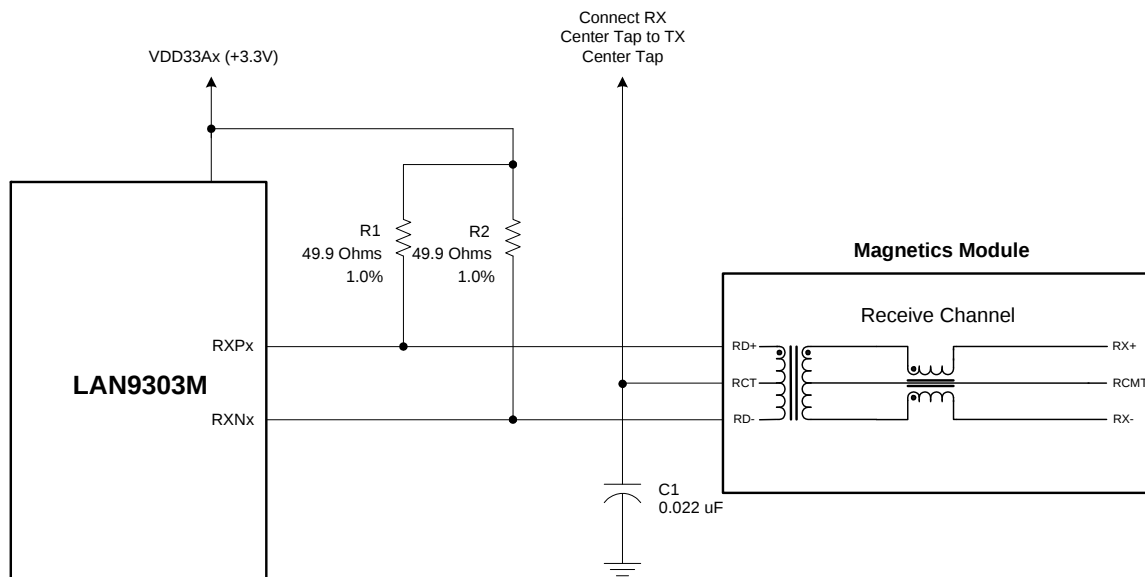

Figure 9 - Receive Channel Connections and Terminations
6. For Receive Channel connection and termination details, refer to Figure 9.